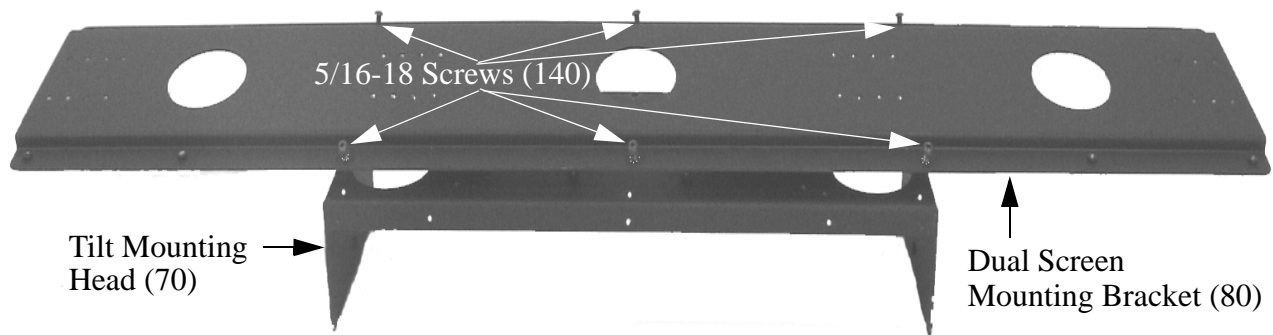

Figure 6. Attach Dual Screen Mounting Bracket to Mounting Head
- Using six 5/16-18X3/4" screws (140), secure the dual screen mounting bracket (80) to the tilt mounting head (70) (see Figure 6).